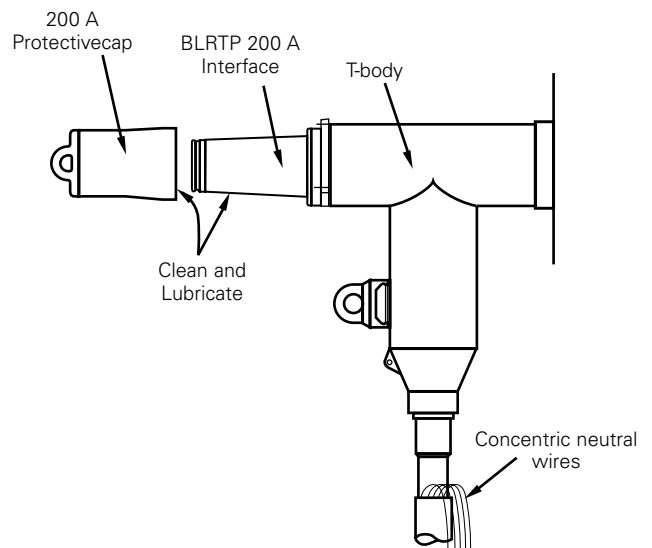

Figure 29. Line illustration of protective cap installation.
- Clean and lubricate 200 A interface of BLRTP and mating product (i.e., Protective Cap, Grounding Elbow, M.O.V.E. Arrester) with lubricant supplied. (Refer to Figure 29.)